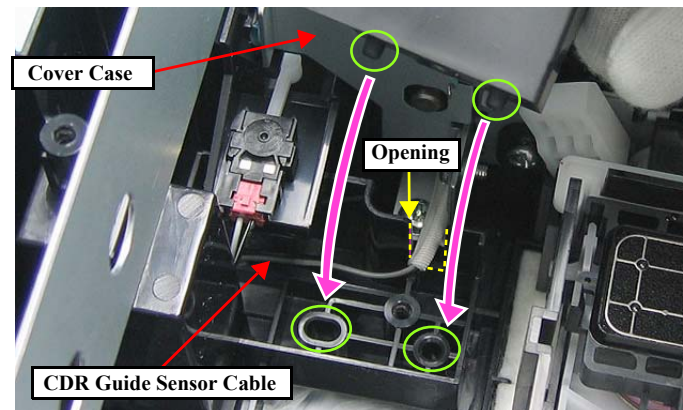

Figure 4-44. Installing the Cover Case
- When installing the Cover Case, match the two guide pins and their two positioning holes ○ as shown in Fig.4-44.
- Route the CDR Guide Sensor Cable through the opening as shown in Fig.4-44.